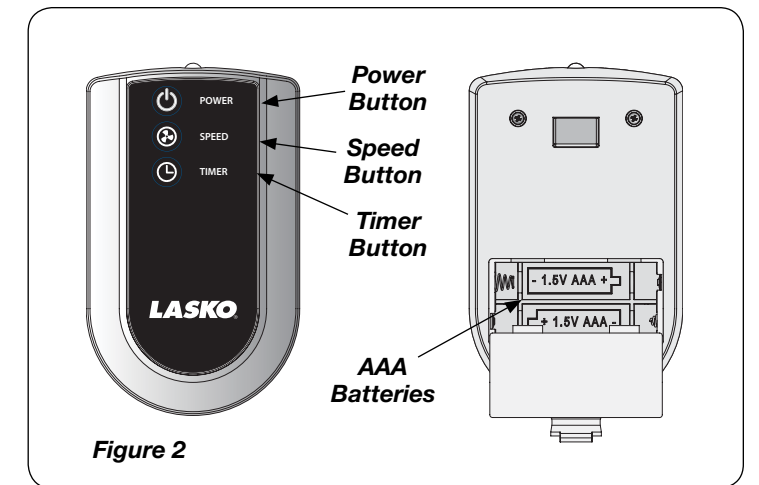

Figure 2
All the functions performed with the Remote Control work identically to the manual controls. (Figure 2)
1. Install batteries (not supplied) as shown in Figure 2. The battery is type "AAA".